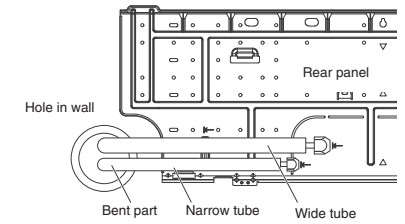

Fig. 3-98
- (1) Lead the tubing and drain hose through the wall, allowing sufficient length for connection. Then bend the tubing using a tube bender to make the attachment. (Fig. 3-98)
- (2) Switch the drain hose and drain cap.